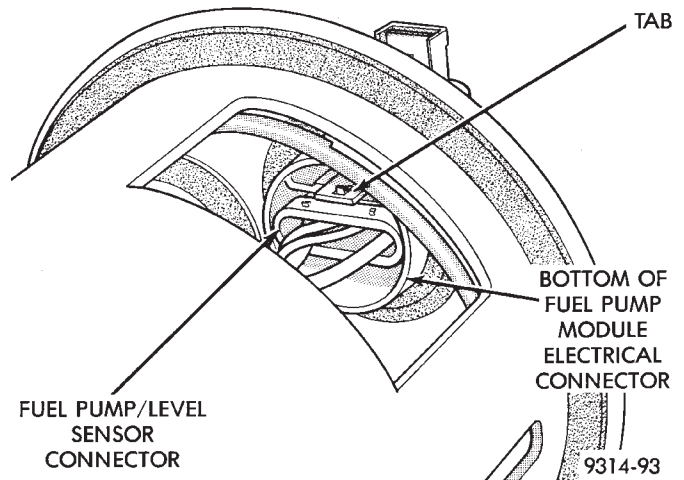

Fig. 30 Fuel Pump/Level Sensor Connector
- (1) Depress the retaining tab and remove the fuel pump/level sensor connector from the bottom of the fuel pump module electrical connector (Fig. 30).